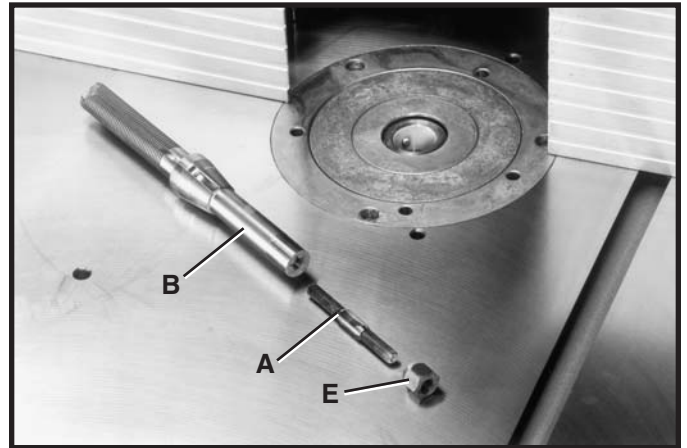

Fig. 30
1. Thread one end of the tie rod (A) Fig. 30, into the threaded hole in the bottom of the spindle (B).
4. Thread nut (E) Figs. 30 and 33, onto bottom end of tie rod (A).